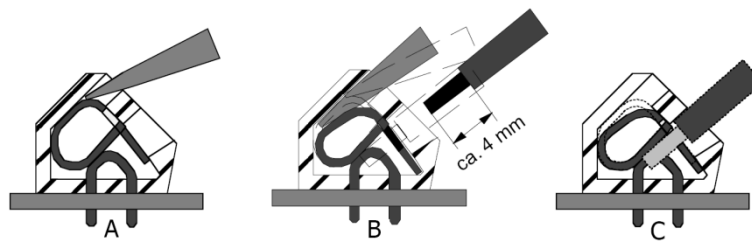

Figure 44 Connection in screwless spring-loaded terminals
- Insert a size 1 screwdriver in the upper opening and insert it turning slightly upwards (figure 44 A).
- Now place the stripped connecting wire in the lower opening and hold it there securely (figure 44 B).
- Withdraw the screwdriver. The connecting wire is then firmly fixed (figure 44 C).
The insulation of the connecting line must extend as far as the terminal indentation, i.e. there must be no further bare part of the connecting line visible above the terminal edge (as shown in figure 44 C). Touching live parts is dangerous to life. The stripped part of the connecting wire should be shortened if necessary.